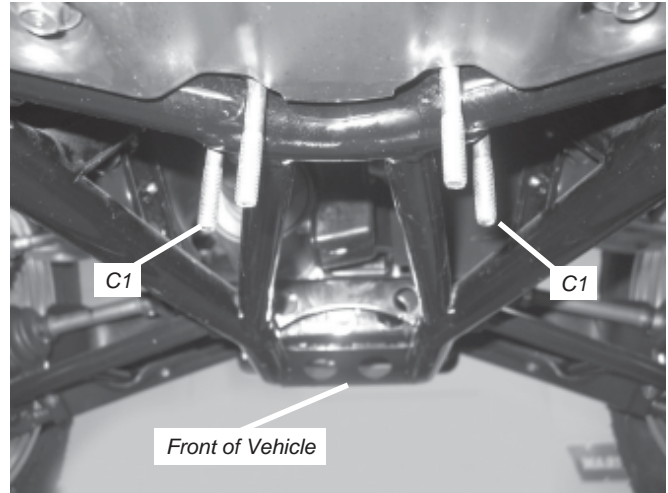

Figure 1 Install Rear U-Bolts
1. Slide two 5/16" dia x 1-1/8" wide U-bolts (C1) over the rear frame cross tubes as shown in figure 1.